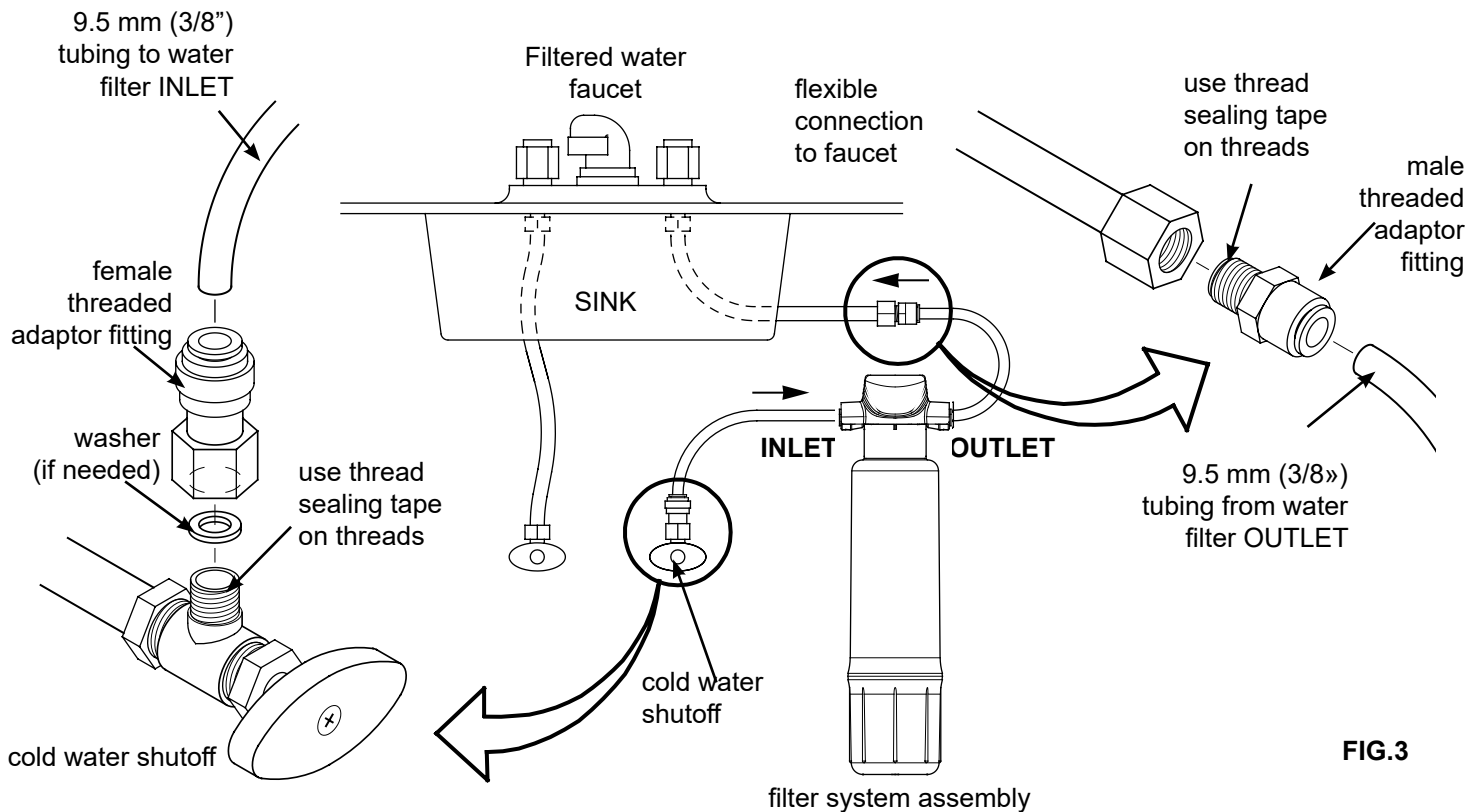

FIG.3
Check and comply with local plumbing codes as you plan, then install the fittings to connect the undersink filter into the sink's cold water supply line. Fittings and 9.5 mm (3/8") O.D. tubing are included to provide connections to and from the undersink filter's inlet and outlet. A typical connection using the included water supply fittings is shown in Figure 3.
3. Locate the supplied male threaded adaptor fitting (See Fig. 3) and, using thread sealing tape, install it into the nut on the faucet supply line which you disconnected in Step 2.
4. Locate the supplied female threaded adaptor fitting (See Fig. 3) and, using thread sealing tape, install it onto the cold water supply pipe. If the threaded portion of the water supply pipe is too short to insert fully into the adaptor fitting (about 10.4 mm), place the supplied washer inside, as shown in Figure 3.